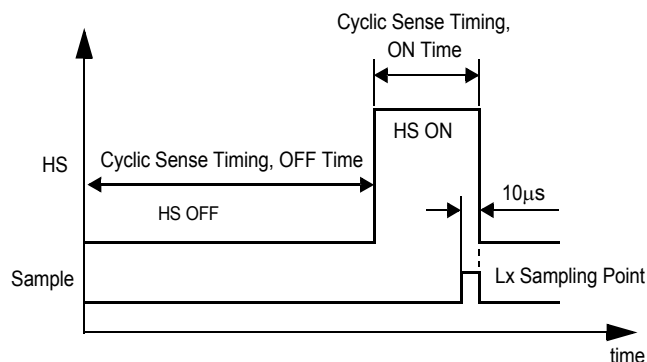

Figure 30. HS Operation When Cyclic Sense is Selected
- TIM2—Selects an appropriate timing for sensing the wake-up circuitry or cyclically supplying devices by switching the HS on or off. TIM2 is selected when bit D3 is 1 (Table 32). Figure 30, page 54, describes HS operation when cyclic sense is selected. Cyclic sense timing characteristics are described in Table 34, page 54.